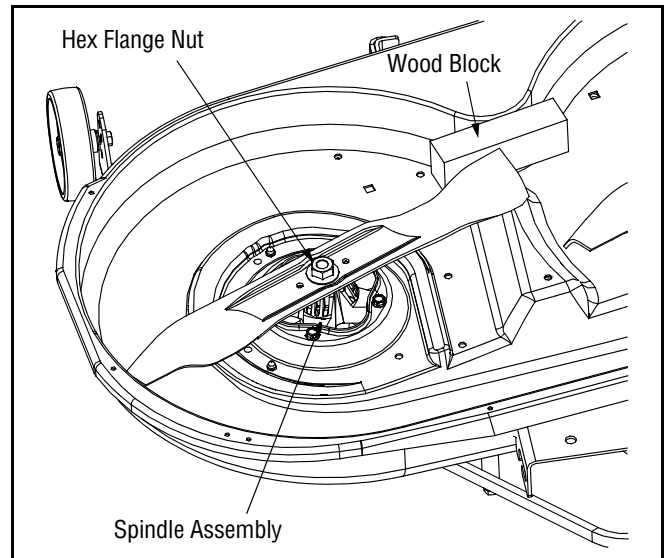

Figure 17
- Place a block of wood between the center deck housing baffle and the cutting blade to act as a stabilizer. See Figure 17.
- Use a wrench to remove the hex flange nut that secures the blade to the spindle assembly. See Figure 17.